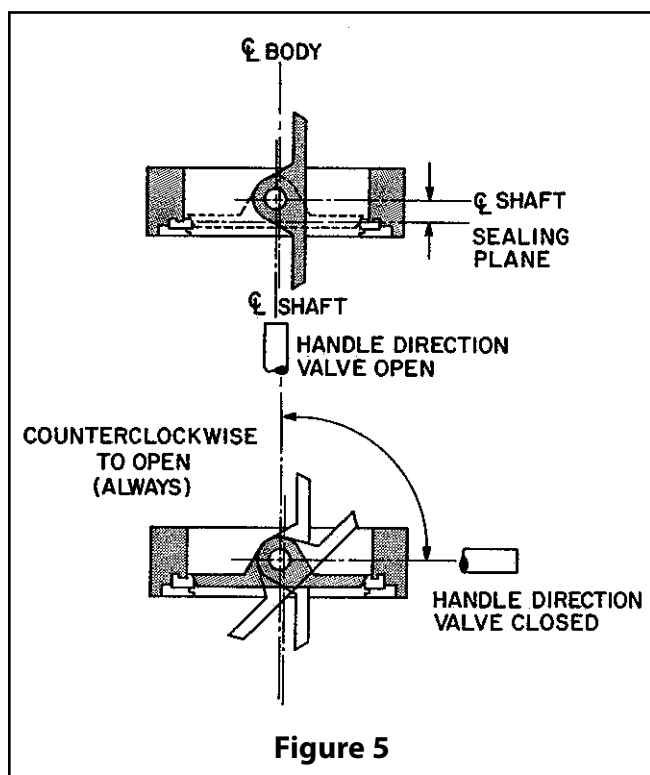

Figure 5
One of the design features of the *Wafer-Sphere* valve that is responsible for its superior performance is the valve's eccentric shaft design. The shaft is offset in two planes: (1) away from the valve disc centerline; and (2) behind the disc sealing plane (See Fig. 5). Offset shaft design makes the rotating disc cam back and away from the seat, completely eliminating the usual wear points at the top and bottom of the seat. Because the disc rotates off the seat in an eccentric arc, it operates in one quadrant only (See Fig. 5).
4. Before installing the closed valve in the line, be sure that the handle or actuator is attached so that a counterclockwise rotation, viewed from above, opens the valve (See Fig. 5). Again, fully close the valve before installing it in the line. If the valve is not in the fully closed position when the flange bolts are tightened, the seat may be damaged.